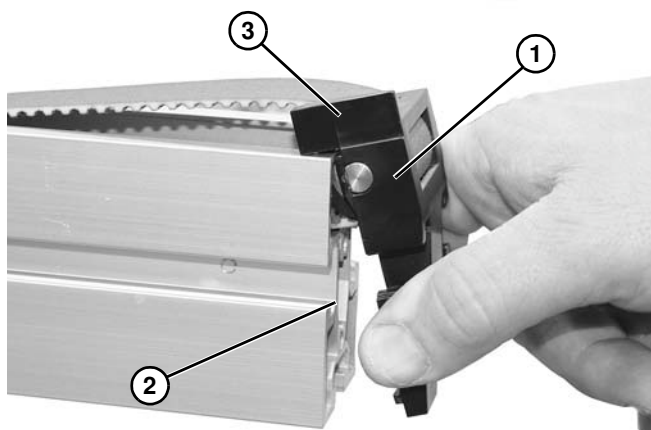

Figure 6
2. Snap the end cap (**Figure 6, item 1**) into the conveyor (**Figure 6, item 2**) on both ends. Make sure that the high side (**Figure 6, item 3**) faces out. Ensure end cap is seated tight against frame on both sides.